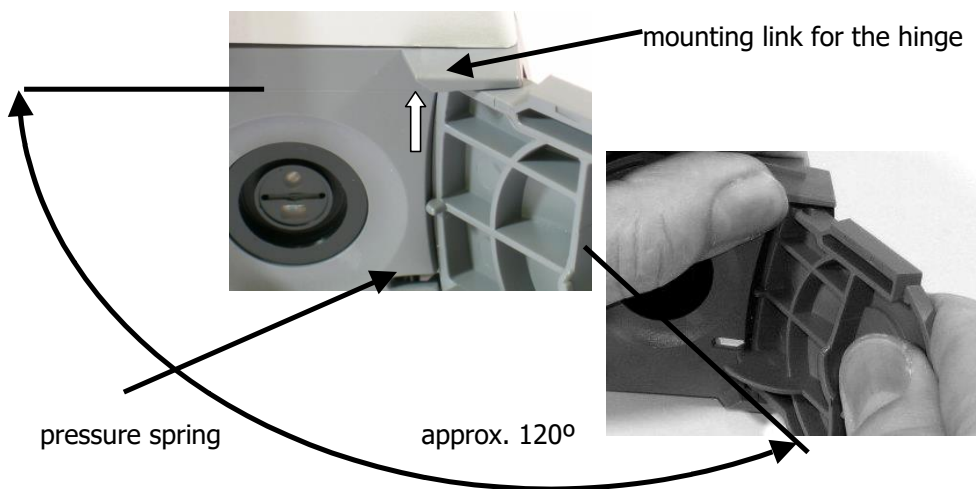

Figure 14 Docking Station Door removal
2. Open the Docking Station Door to an angle of approximately 120° (see *Figure 14 Docking Station Door removal*).